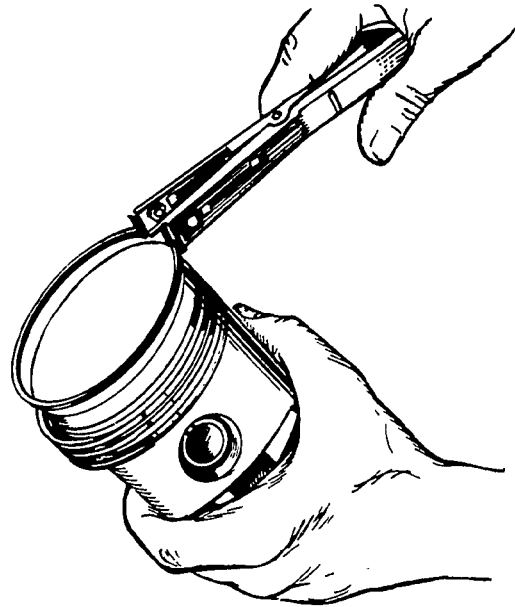

FIGURE 13. REMOVING PISTON RINGS
6. Remove the piston rings from the piston with a piston ring spreader (Figure 13). Remove the piston pin retainer and push the piston pin out.